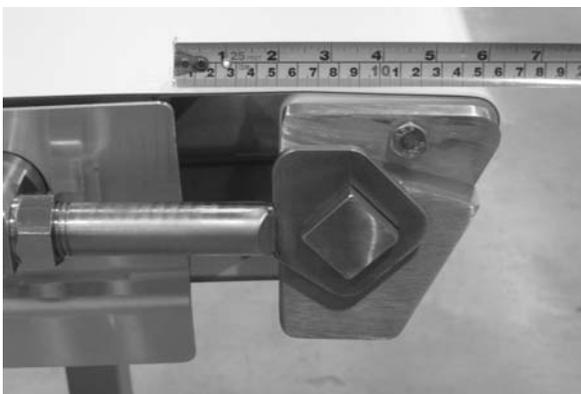
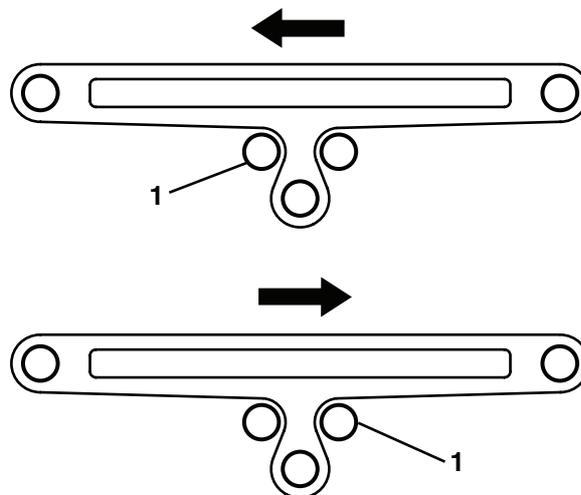

Figure 49
Figure 52
When installing a new belt, set conveyor tracking elements to the “zero position” and start the tracking procedure. The zero position is when the tails are tensioned out to the 6” dimension as shown in (**Figure 49**, and the infeed tension roller (**Figure 52, item 1**) on the center drive assembly is set to its outermost position (roller away from center of box, against guard).
Tracking of belt through the center drive is done by adjusting the position of the infeed roller (**Figure 52, item 1**) on the center drive assembly.